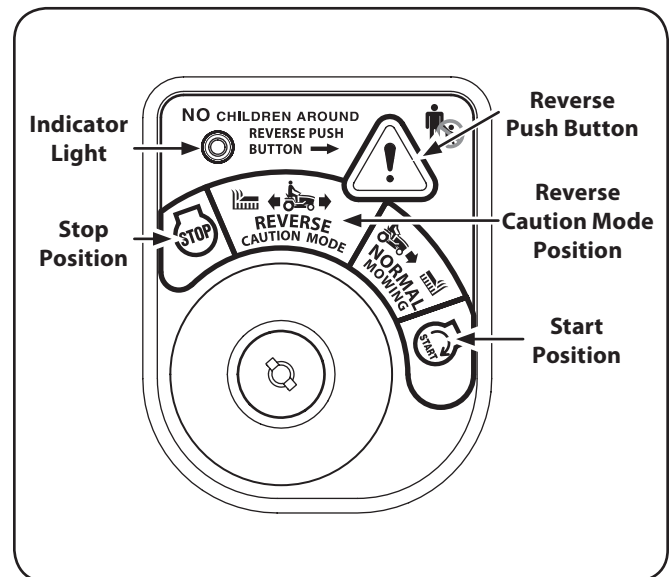

Figure 5-3
2. Turn the key from the NORMAL MOWING (Green) position to the REVERSE CAUTION MODE (Yellow) position of the key switch module. See Figure 5-3.
3. Press the REVERSE PUSH BUTTON (Orange, Triangular Button) at the top, right corner of the key switch module. The red indicator light at the top, left corner of the key switch module will be ON while activated. See Figure 5-3.